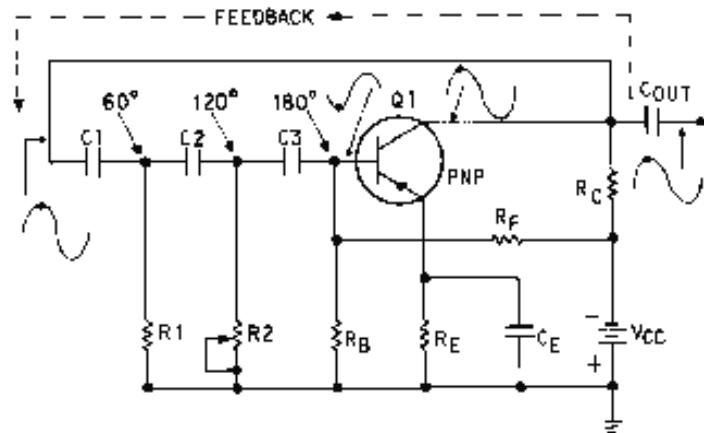

Figure 2-17.—Phase-shift oscillator.
An RC FEEDBACK or PHASE-SHIFT oscillator is shown in figure 2-17. Components C1, R1, C2, R2, C3, and R_B are the feedback and frequency-determining network. This RC network also provides the needed phase shift between the collector and base.
The PHASE-SHIFT OSCILLATOR, shown in figure 2-17, is a sine-wave generator that uses a resistive-capacitive (RC) network as its frequency-determining device.
As discussed earlier in the common-emitter amplifier configuration (figure 2-17), there is a 180-degree phase difference between the base and the collector signal. To obtain the regenerative feedback in the phase-shift oscillator, you need a phase shift of 180 degrees between the output and the input signal. An RC network consisting of three RC sections provides the proper feedback and phase inversion to provide this regenerative feedback. Each section shifts the feedback signal 60 degrees in phase.